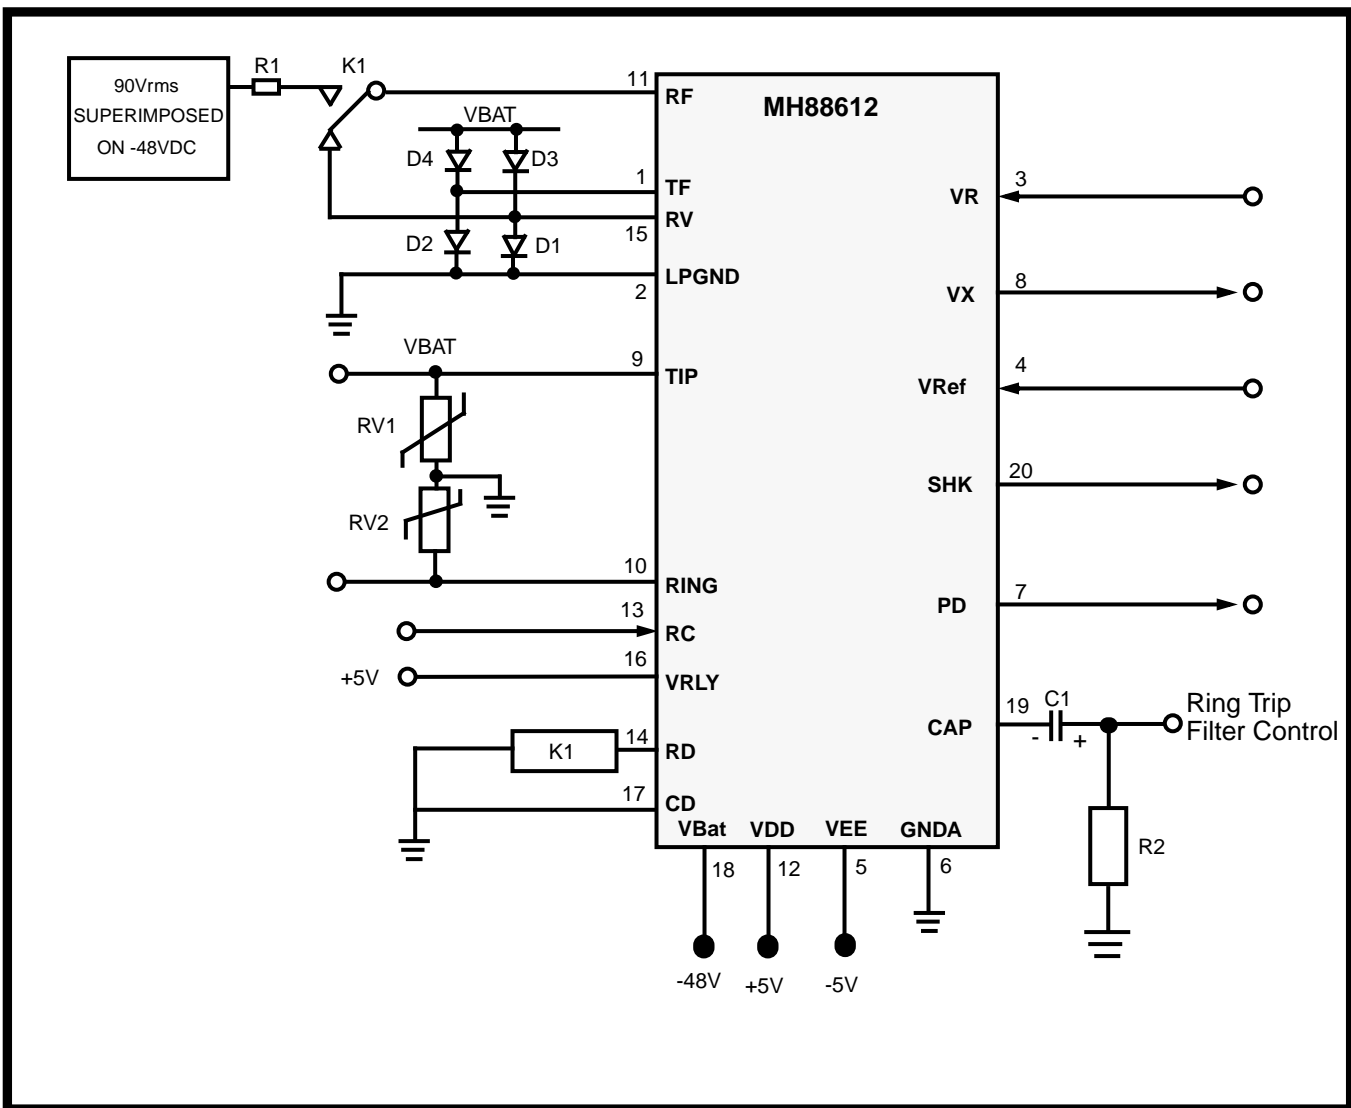

Figure 3 - Application Circuit
In Figure 3 a ringling signal (e.g. 90 Vrms= $\pm$ 48Vdc) is applied to the line by disconnecting pin 15 (RV) from pin 11 (RF), and connecting the ringling voltage at pin 11 (RF) by use of the relay K1.